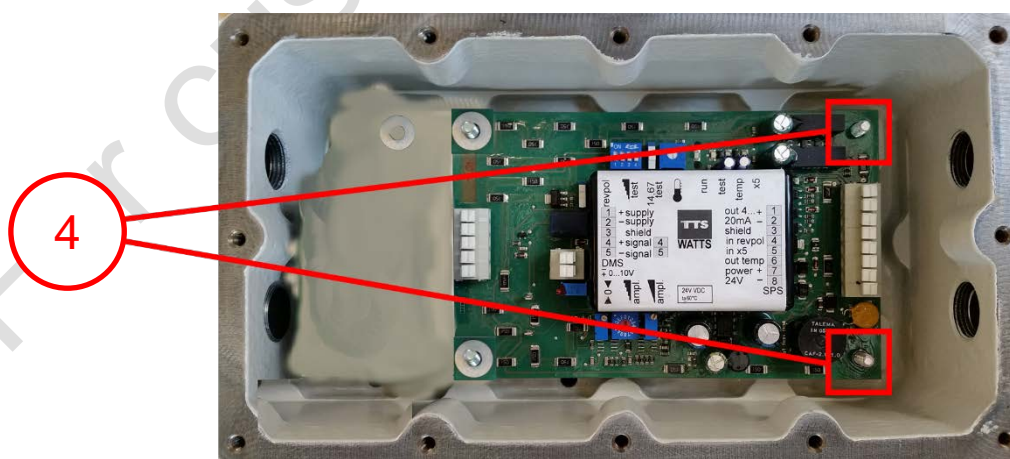

Figure 5
- Fasten the WATTS card with two washers and nuts (see detail 4 in figure 5). Leave the other 2 bolts unscrewed.